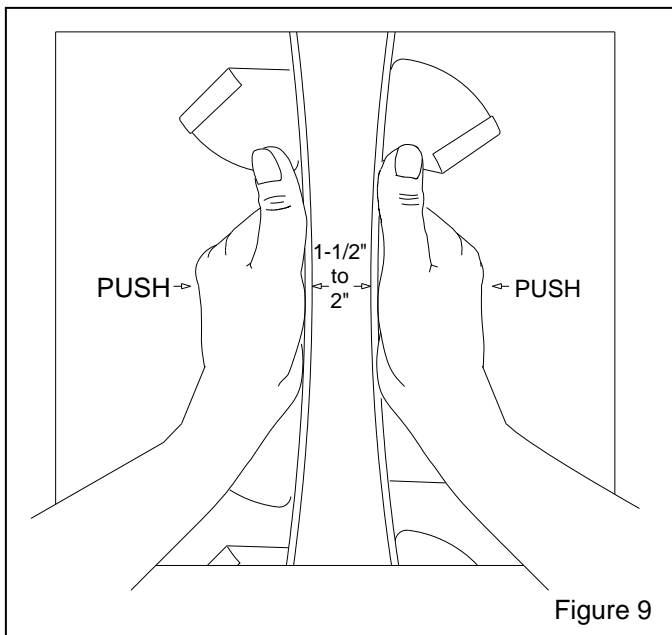

Figure 9
**5.1.3** Working through the center-leg access opening, use both hands to draw the two sides of the belt together. If the belt is tightened correctly, it cannot be drawn any closer together than between 1-1/2" to 2". See Figure 9.